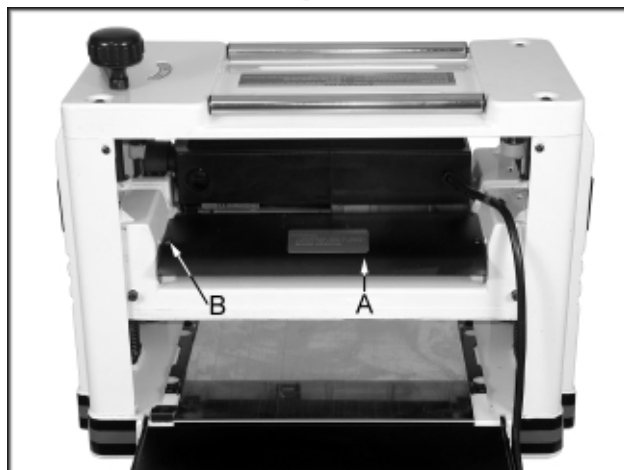

Fig. 13
3. Remove two hex socket cap screws (B, Fig. 13) and two lock washers holding the chip guard (A, Fig. 13) to the planer.